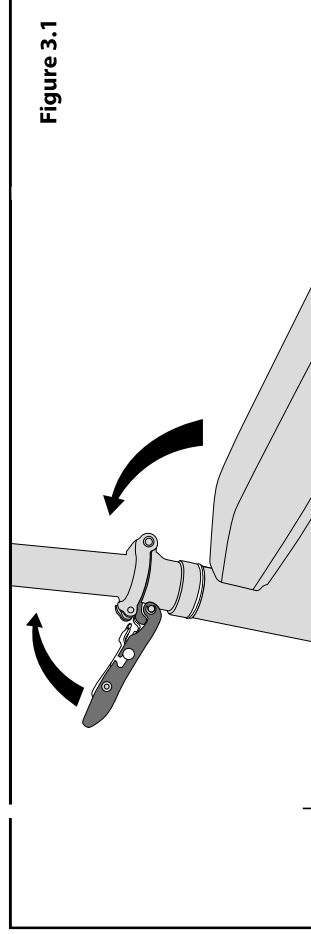

Figure 3.1
1. The first step: After unpacking the whole electric bike, unroll the bike (Always wear: Figure 3.1).